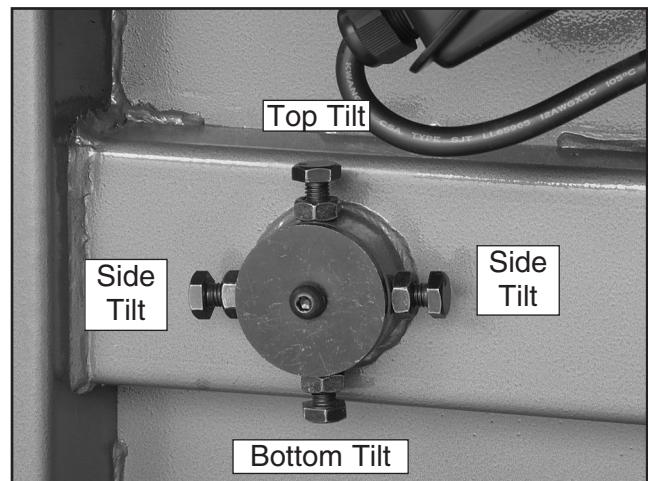

Figure 68. Lower wheel adjustment control.
7. Adjust the tracking knob to get both wheels parallel. If the wheels won't go parallel to each other, then move the lower wheel at the adjustment hub (**Figure 68**) so they line up.